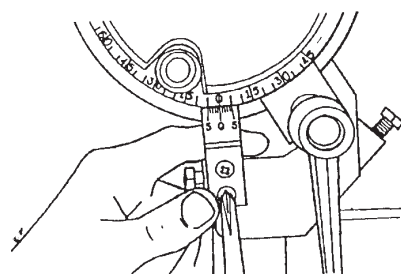

Figure C-34
29. To adjust the scale, use a medium Phillips screwdriver to loosen the two screws which hold the indicator to the tie bar. As seen in See Figure C-34. Then while holding the indicator in position so the "0"s are aligned, retighten the screws.